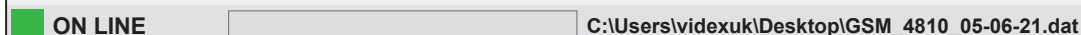

Fig. 130
- **FILE OPEN (ON LINE):** see **Fig.130**, this indicates that an imported or recently saved .dat GSM file is open or has just been opened.